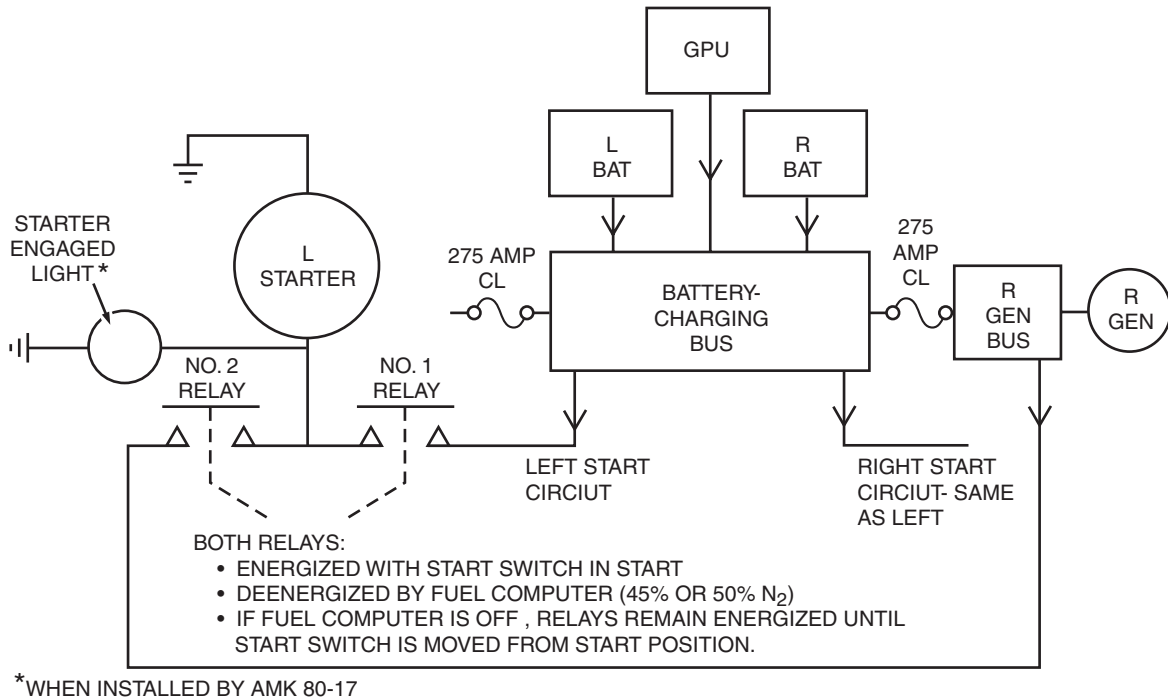

Figure 7-14. Left Start Circuit—SNs 35-002 through 35-147 and 36-002 through 36-035
One relay is connected to the opposite generator bus and the other to the battery-charging bus. This arrangement was designed to protect the 275-amp current limiters during initiation of each engine start sequence (Figure 7-14).
- AMK 80-17 provides a red starter-engaged light for each starter to provide indication of starter engagement (Figures 7-14 and 7-15). Location of the lights is left to customer specification.